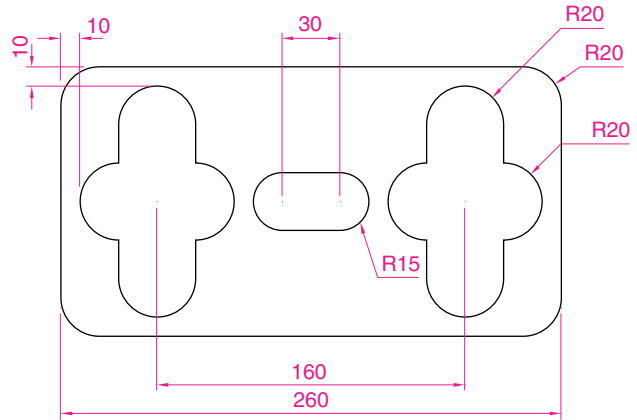

Fig. 5.48 Exercise 3
3. Using the tools **Polyline**, **Circle**, **Trim**, **Polyline Edit**, **Mirror** and **Fillet**, construct the drawing in Fig. 5.48.